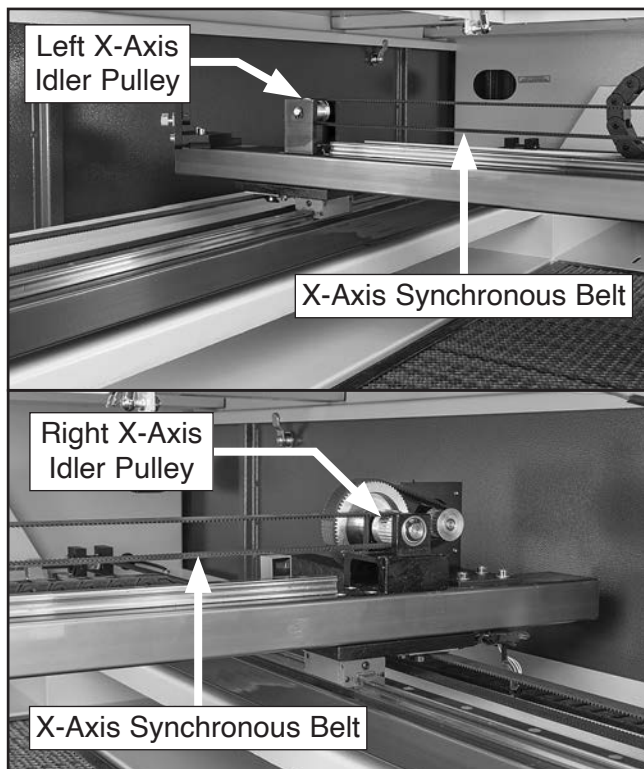

Figure 80. Left and right X-axis idler pulley locations.
5. Remove belt from idler pulleys on both sides of gantry, then remove belt from machine (see **Figure 80**).